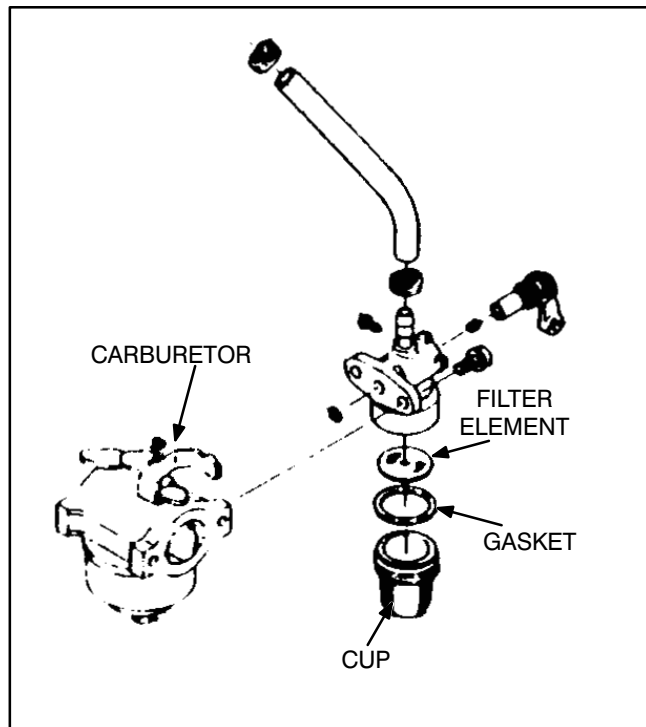

FIGURE 6-12. FUEL FILTER REPLACEMENT, GH170 AND GH280 ENGINES
3. See Figure 6-12. Unscrew the sediment bowl from the fuel supply valve and clean it.